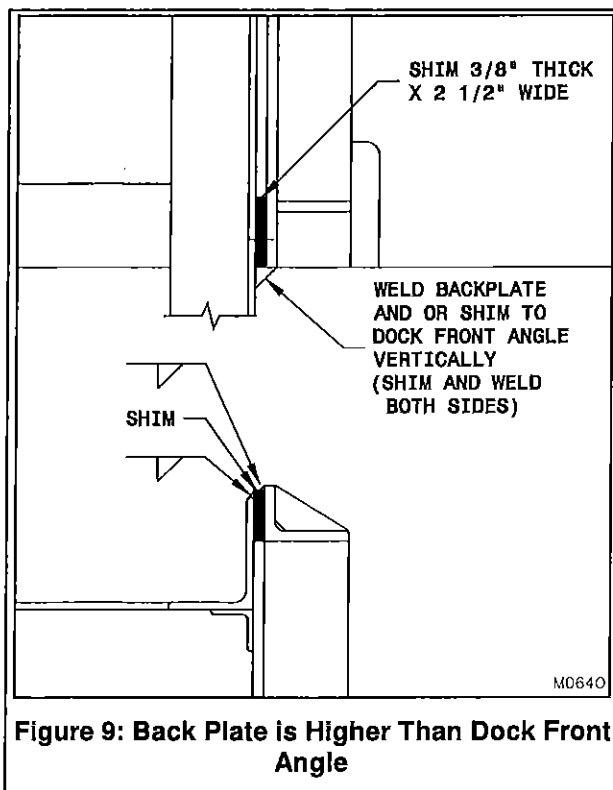

Figure 9: Back Plate is Higher Than Dock Front Angle
- m) If the back plate of the restraint is higher than the front angle of the dock leveler, shim between the top angle of the back plate and the front angle of the dock leveler and weld the shim to both as shown in Figure 9, page 10.